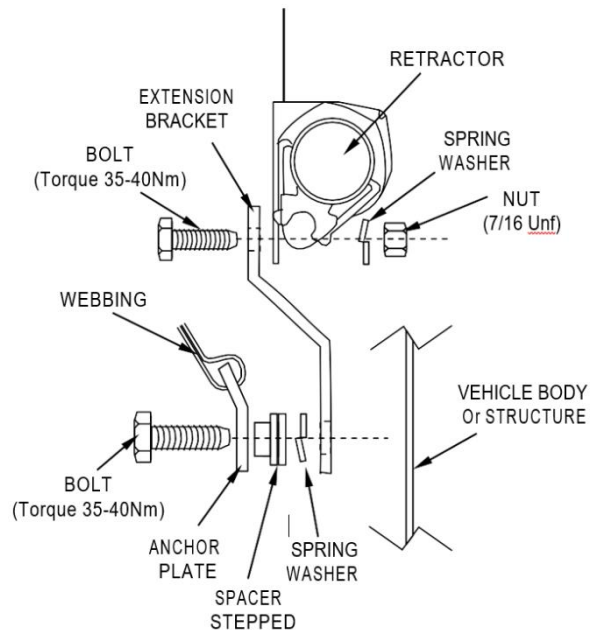

FIGURE 3 (TYPICAL EXAMPLE)
5. A typical example of a bent bracket attached to the retractor is shown in Figure 3.